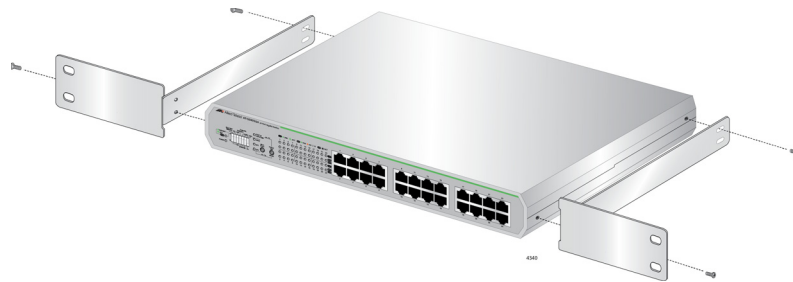

Figure 33. Attaching Rack Mount Brackets to the Switch
3. Attach both rack mount brackets to the side of the switch using the four screws provided as shown in Figure 33..